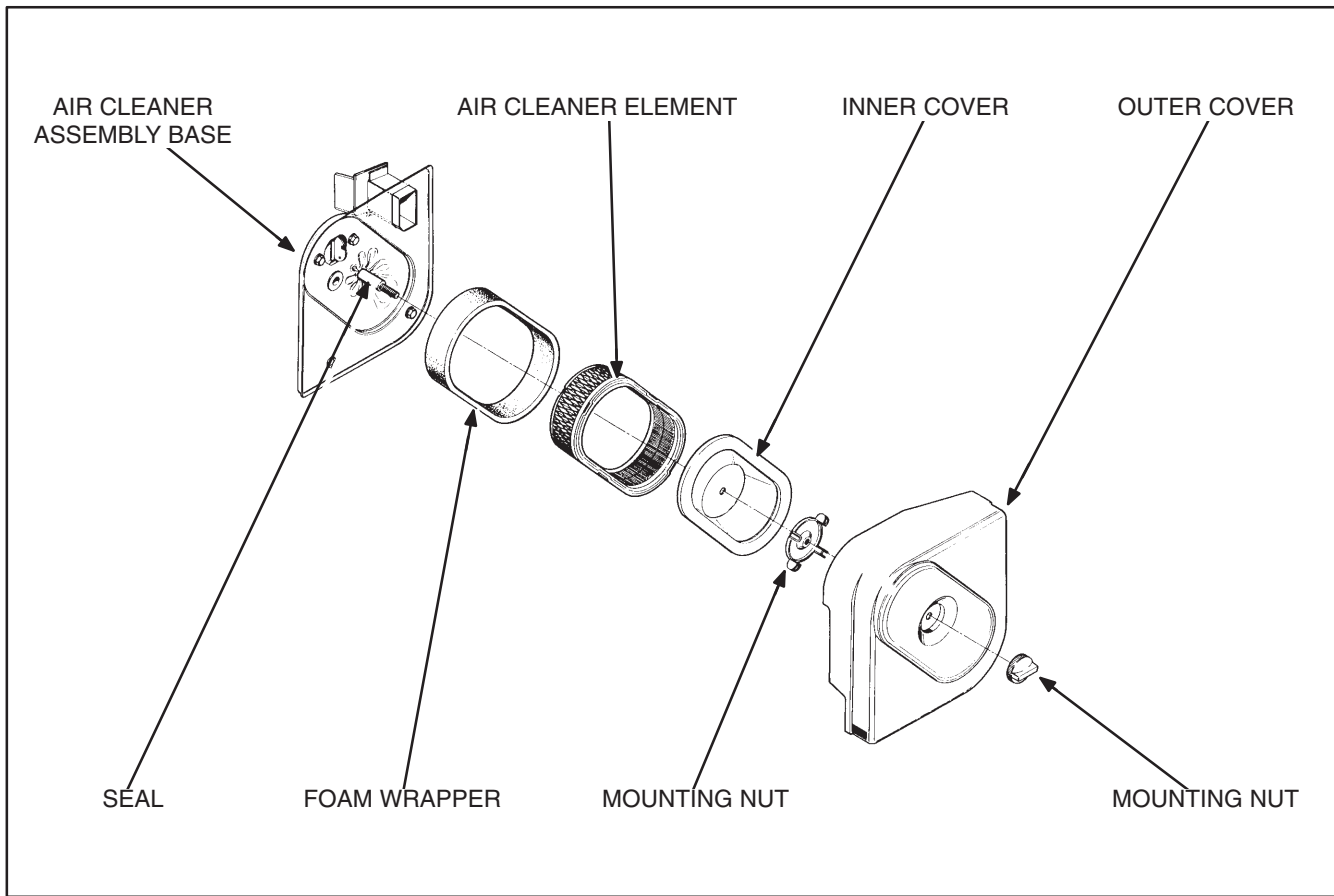

FIGURE 4. AIR CLEANER ASSEMBLY
Refer to Table 2 for scheduled foam wrapper maintenance and air cleaner element replacement. See Figure 4.
1. Remove the outer cover of the air cleaner (Figure 4) for easier access to adjustments and set up the tachometer according to the instructions with the tachometer.
1. Shut off the engine and remove the outer cover of the air cleaner for easier access to adjustments and the filter element to be able to view the position of the choke plate. See Figure 4.